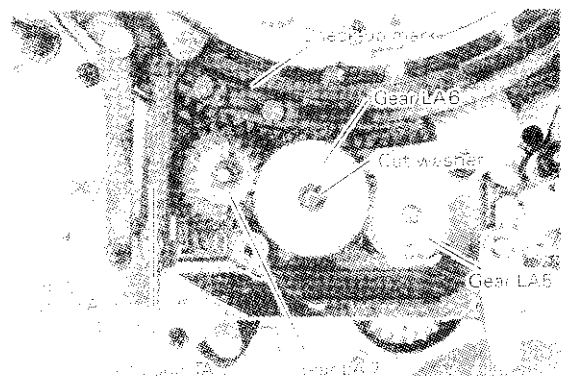

Fig. 3-21-4
- (1) Slide the ring unit TA clockwise and the ring unit SA counter-clockwise respectively and fit check-up mark of each to the check-up marks on the main plate. (See Fig. 3-21-4).
- (2) After making sure that the check-up mark of the gear LA5 and LA7 are matched, attach the gear LA6 to the main plate while fixing the ring unit TA, SA and the gear LA5, and fix with the cut washer.